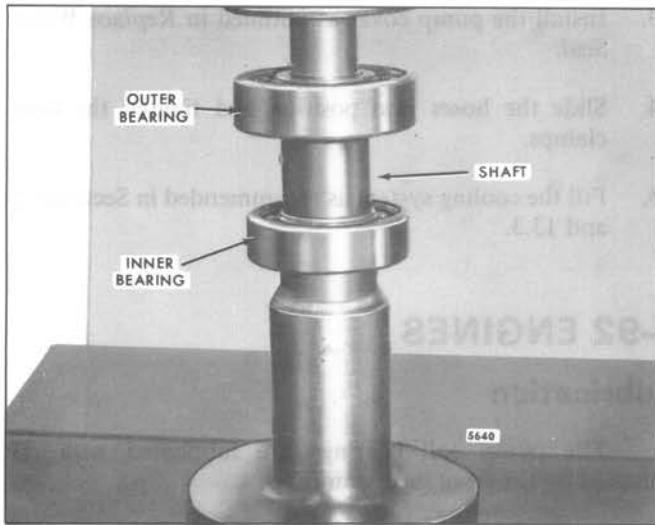

Fig. 12 – Pressing Bearing on Pump Shaft using Tool J 25257
1. Lubricate the bearing bores and shaft bearing surfaces. Use bearing and gear installer J 25257 and install the bearings on the shaft (Fig. 12). Apply pressure to the inner races of the bearings only during assembly on the shaft.
1. Lubricate the bearing bores and shaft bearing surfaces. Use bearing and gear installer J 25257 and press the bearings against the shoulders on the shaft (Fig. 12). Apply pressure to the inner races of the bearing only during assembly on the shaft.